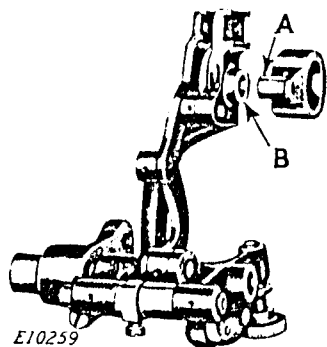

Fig. 35
Before installing the feed rock shaft which is assembled with other feed parts, as shown in Fig. 35, place the spur (A) of the feed lifting eccentric into the hole of the feed bar at (B).